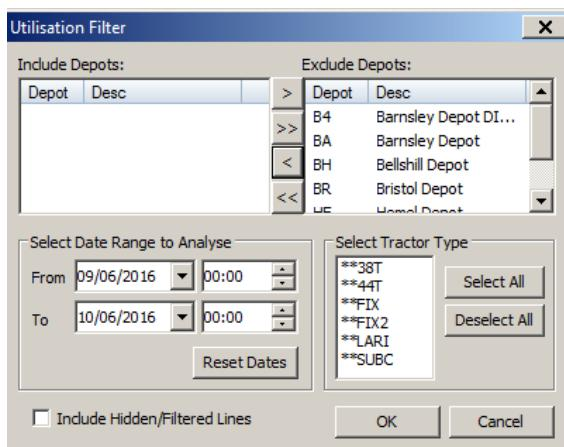

Figure 177
3. The Utilisation Filter window is displayed (Figure 177)